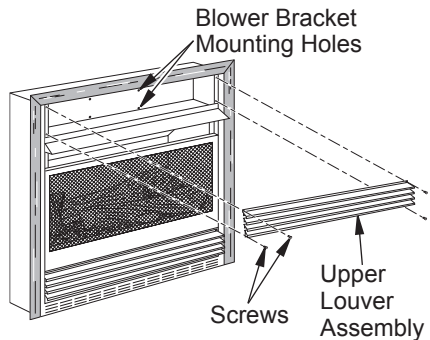
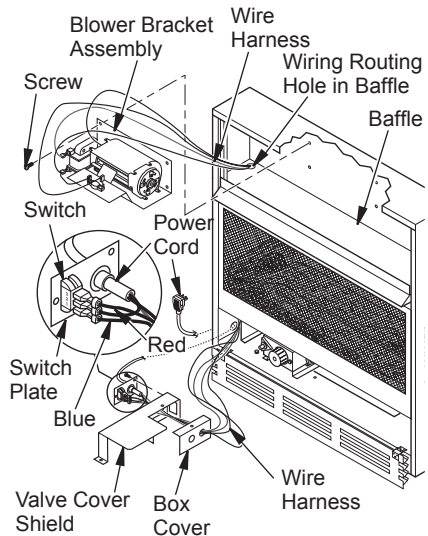
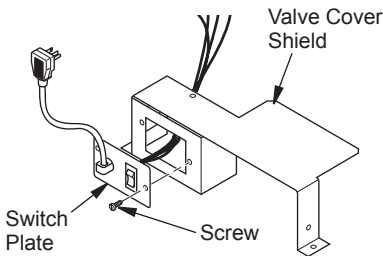

Figure 16 - Removing Upper Louver Assembly
Figure 18 - Installing Blower Bracket Assembly
Figure 19 - Installing Switch Plate to Valve Cover Shield
- Remove 4 screws from louver assembly (see Figure 16). Save these screws.
3. Note the wire locations on back of AUTO/OFF/ON switch. The terminals on back of switch are numbered 1, 2, and 3. Carefully remove red wire from terminal 1 and blue wire from terminal 3. Black wire can remain on middle terminal 2 (see Figure 18).
5. In top of the heater cabinet, locate the four mounting holes on the outer casing. Align these four holes with those on the blower bracket assembly. Attach blower bracket assembly to the outer casing with 4 #10 screws provided (see Figure 18).
6. Route the wire harness through the hole in left side of baffle. Pull wire harness through lower opening above where the valve shield was removed. (see Figure 18).
7. Insert the 4 wire harness into one of the round holes in the rear of the valve cover shield and through the rectangular hole in the front of shield (see Figure 18).
- Install the switch plate on the valve cover shield with 2 #10 screws provided (see Figure 19). Reinstall the valve cover shield. Route power cord out of the cabinet by inserting it through the bushing on the outer casing (see Figure 18, page 14). Plug fan kit into 120-Volt grounded power supply and test operation. **Note:** When switch is in the AUTO position, the fan will start after the heater has run for a few moments. The fan will continue to run for several moments after the heater has been turned off. When switch is in the ON position, the fan will run until turned to OFF. Reinstall upper louver assembly and hood if previously removed, (see Figure 16, page 13). Close lower louver door.
- Reinstall upper louver assembly and hood if previously removed, (see Figure 16, page 13). Close lower louver door.